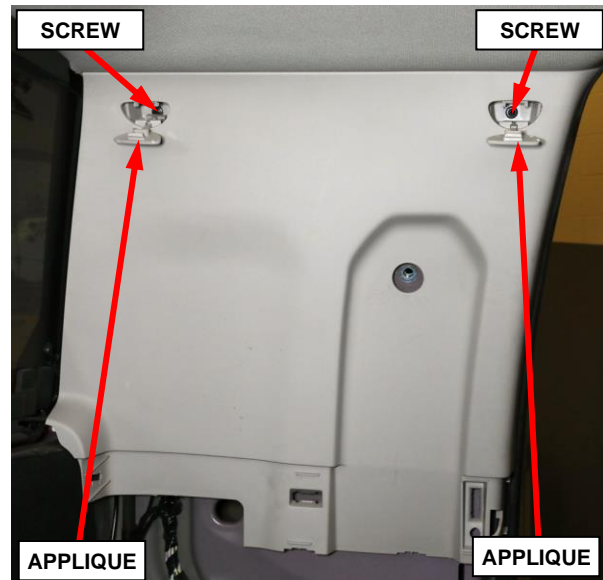

Figure 75 – C-Pillar Upper Trim Panel Fasteners
- Using a trim stick or equivalent, release the B-pillar airbag applique then remove the screw that secures the upper trim panel (Figure 75).